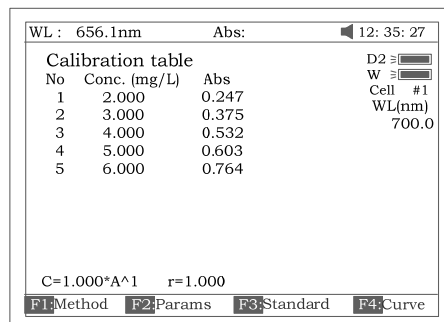

Fig 33
- Pull the first sample cuvette of known concentration into the light path, Press the key [START] to get values of standard curve one by one (Fig 33).
- a) Standard curve built up and saved in the instrument. In Fig 33 press [Load] and then press [A] or [V] to select the file with type *****.fit**. At last press [ENTER] to confirm.